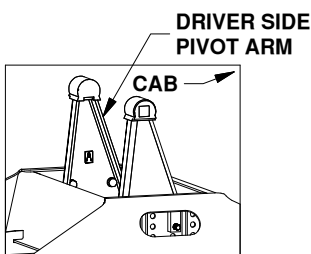
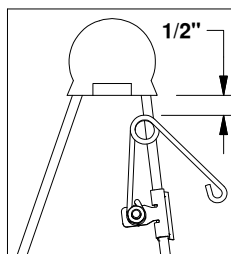

Figure E3:
Figure E4: Driver
2. Locate the flange which will be closest to the truck cab on the driver side pivot arm, see figure E3. The clip should be placed so that when the springs coil is in the line with the edge of the arm there will be 1/2" of clearance between the bottom of the rubber bumper and the top of the spring, see figure E4. Drive the clip securely onto the flange with a hammer.